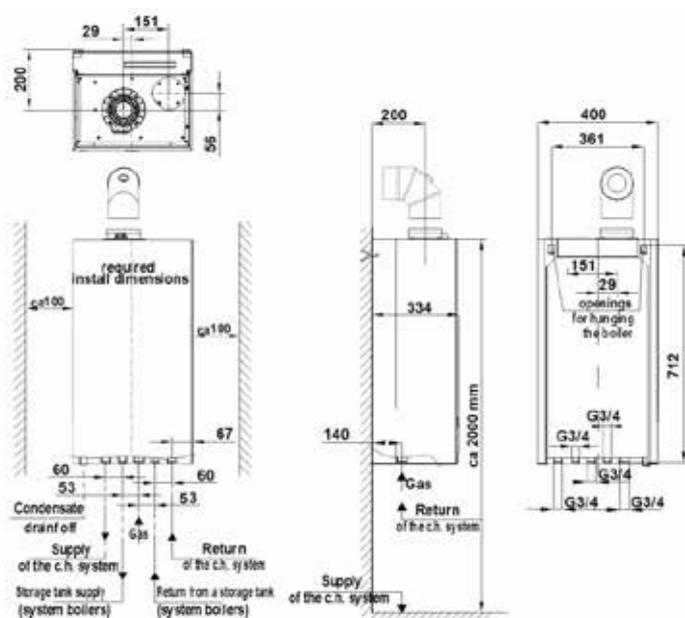

Fig. 3.3.1 Installation dimensions of the X boiler
- Power supply and return connectors of the central heating boiler should be screwed to the installation. See Figure 3.3.1 for the location of the connectors.
- It is recommended to lead water out from the safety valve (item 25, 3 bar) to a floor drain using a tube or hose to reduce the risk of flooding during the safety valve activation (excluded of manufacturer's liability if flooding occurs).